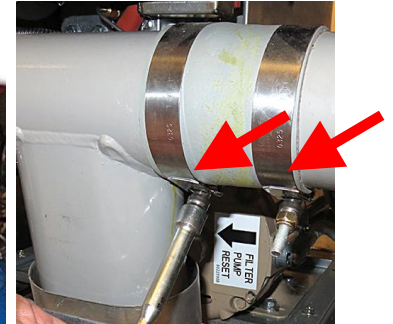

Figure 44
42. Use a 7/16" nut driver to loosen the two clamps securing the drain to the drain dump tube (see Figure 44).